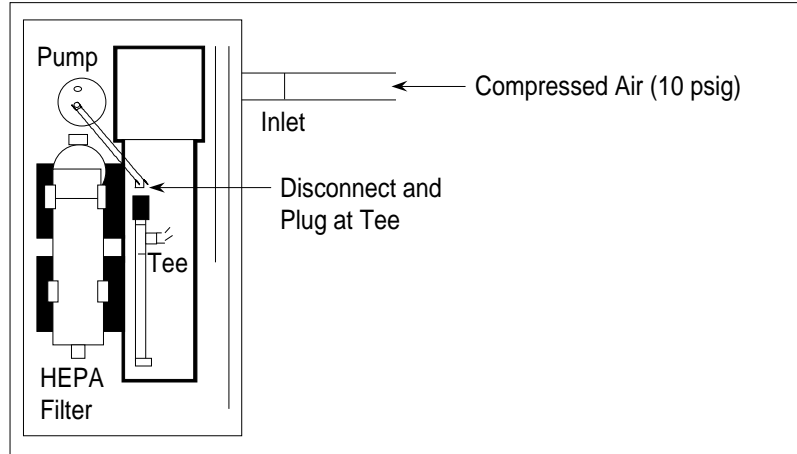

Figure 8-6
- 8.** If you find that the counter leaks, first tighten all fittings and screws and repeat the vacuum test. To locate a small leak, replace the vacuum source with a compressed air source as shown in Figure 8-6. Introduce approximately 69 kPa [10 psig] into the counter. Search for leaks by squirting a soap-and-water solution around fittings, O-ring seals and any other possible leak locations. A leak shows up as numerous small bubbles in the soapy water. Repair the leak and retest with the vacuum leak test.